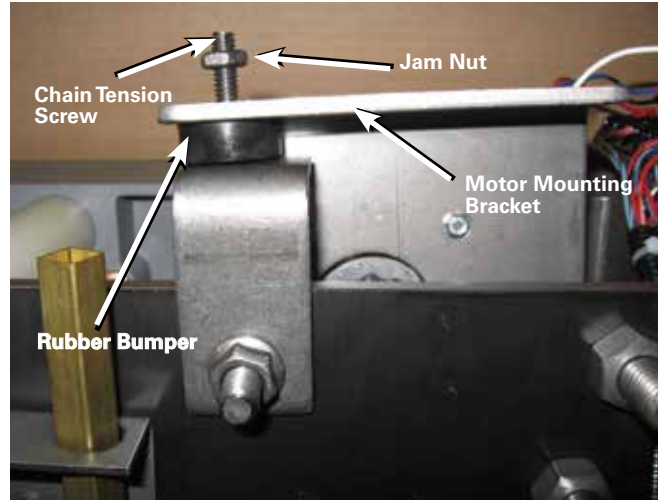

Figure 108. Loosening the chain tension.
5. Loosen the jam nut on the chain tension screw with a 7/16" wrench. Loosen the chain tension screw with a screwdriver until the rubber bumper is against the motor mounting bracket. Refer to Figure 108.